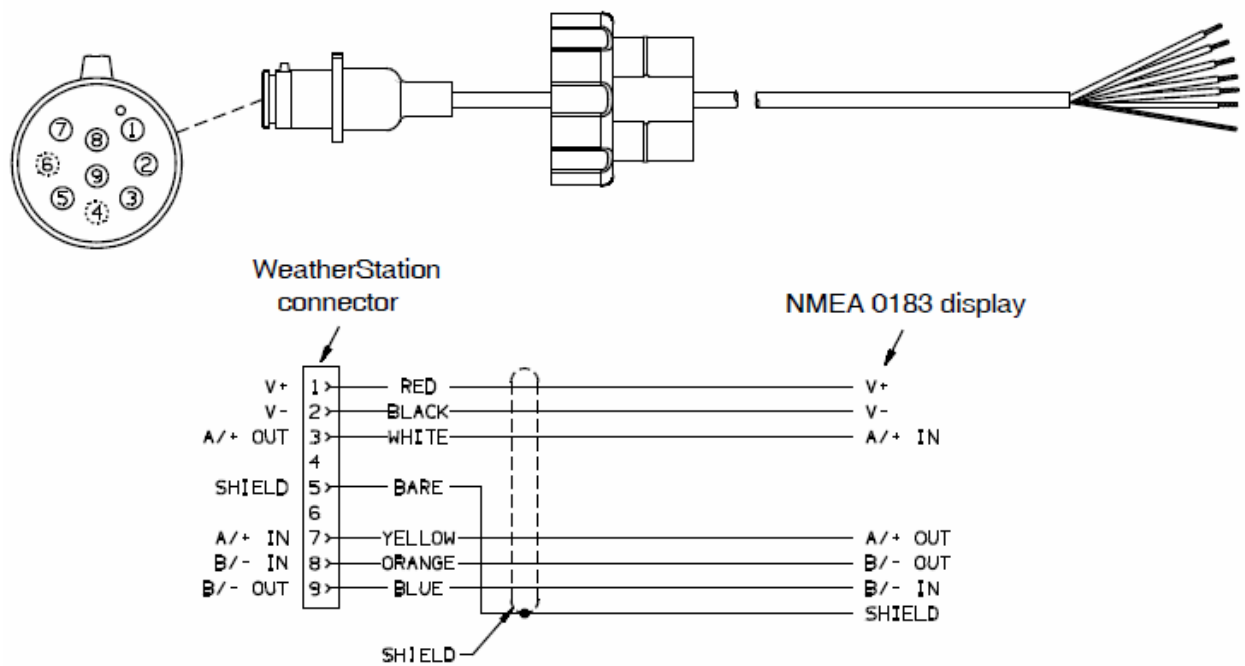

Figure 2-5: NMEA 0183 sensor cable
- **No connector** - If your sensor cable does not have a connector on the display end, it must be hard wired. Refer to the user manual that came with your display and connect the colored wires as shown in the table below and Figure 2-5.
5. Connect the wires to the display (see Figure 2-5).